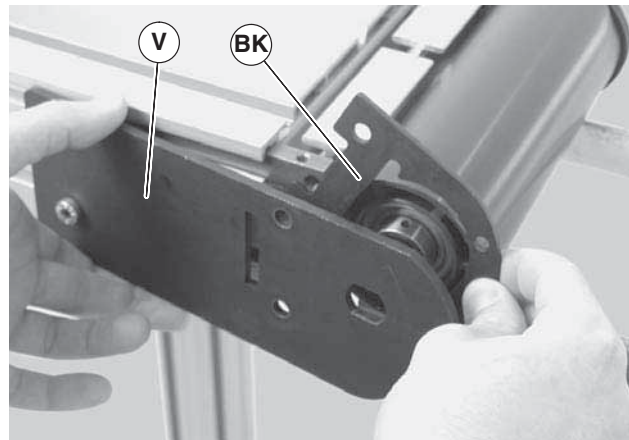

Figure 54
4. Slide the idler pulley assembly (Figure 54, item BL) out of the headplate on the opposite side.